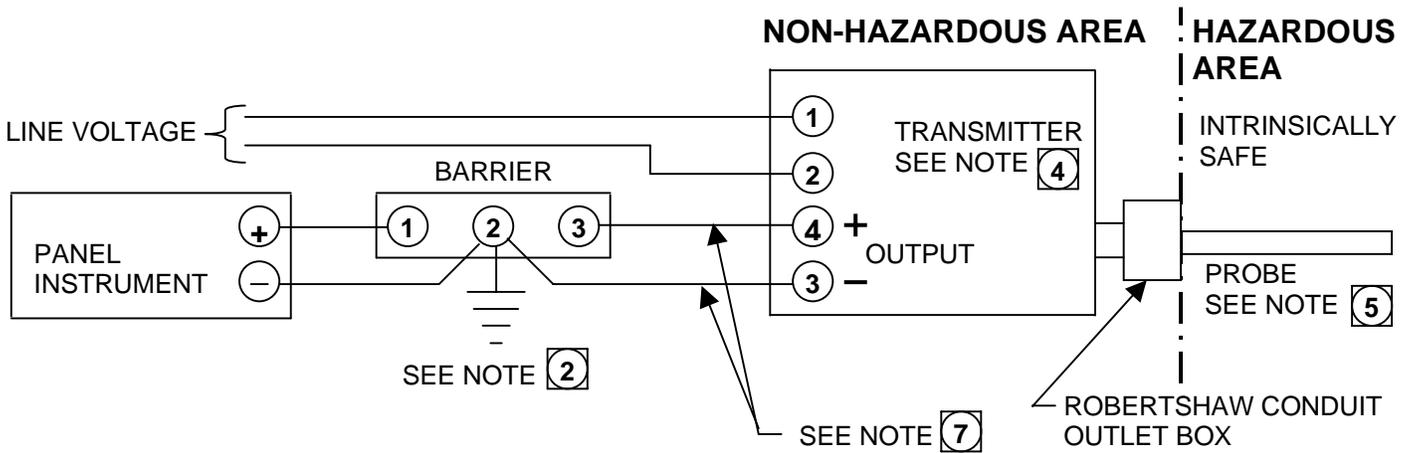

FIGURE 2 - SEE NOTE 1
4. Barriers must be connected in accordance with Robertshaw drawing 907GA518, Fig. 2.
7. Barriers must be connected in accordance with Robertshaw drawing 907GA695, Fig. 2 (907-600-695, Fig. 2).
- In Figure 2, the transmitter is CSA Certified for Enclosure 5. The probe is intrinsically safe for Class I, Division 1, Groups A, B, C & D, Class II, Division 1, Groups E, F & G.